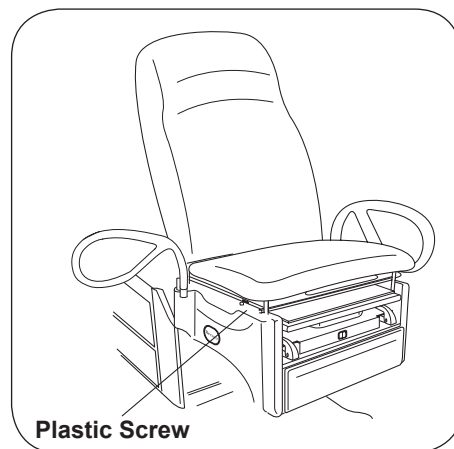

Figure 36. Location of White Plastic Stop Screw
2. Remove the white plastic screw. (Figure 36.)